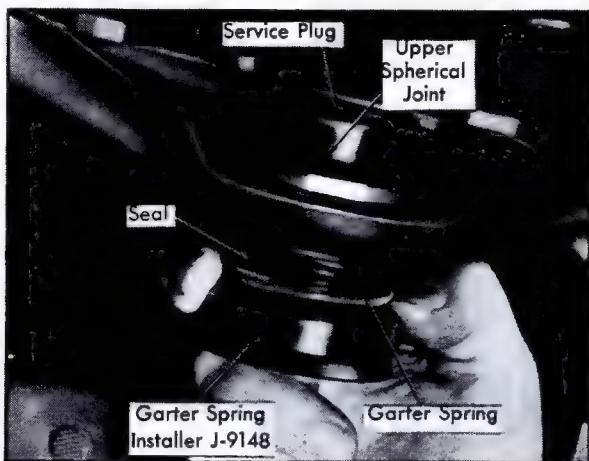

Fig. 3-13 Installing Spring on Upper Spherical Joint Seal
- h. Install spring on seal using Garter Spring Installer, J-9148, Fig. 3-13. Make certain that spring secures lip of seal in recess all around joint housing.